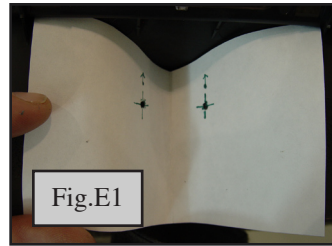

Fig.E1
- ii. Use punch or scribe to mark where to drill. (Fig E1)